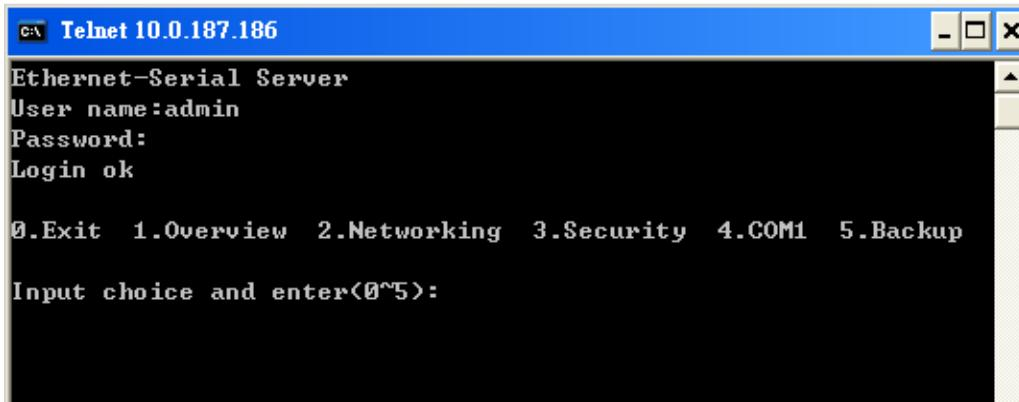

Figure 3.2 Main menu
1. After verifying the password, the following terminal screen appears (Figure 3.2).